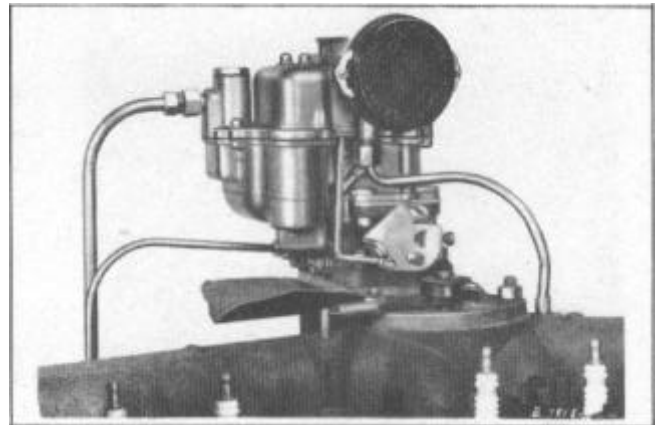

FIGURE 41
3. Disconnect gas line and vacuum line from carburetor to fuel pump, Figure 41.